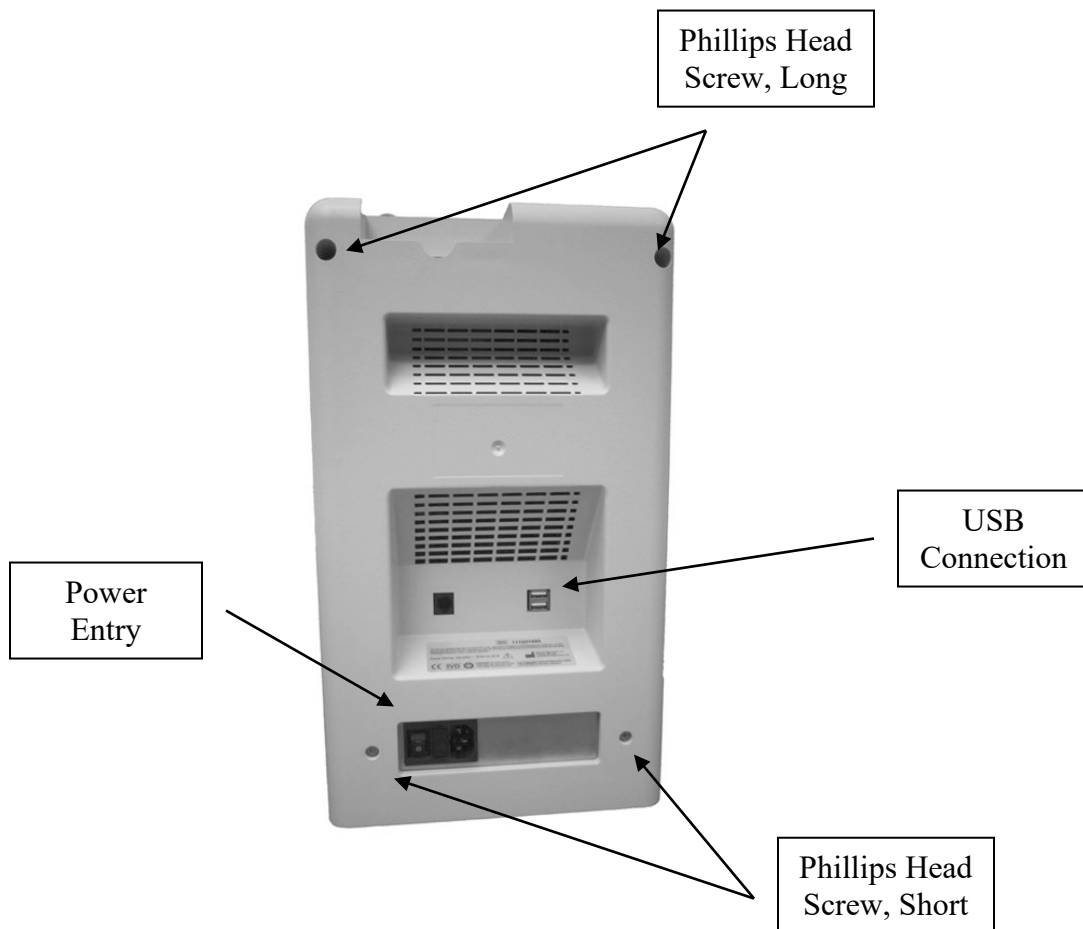

Figure P5 - Rear Housing Removal (Cont)
4. Separate the front and back housing. See Figure P5.